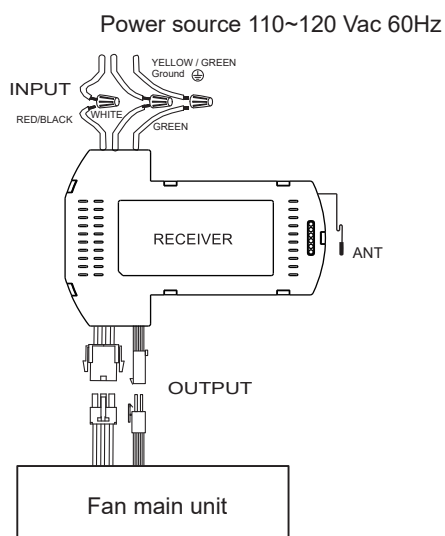

FIG.1
2. For installing to junction box, secure the junction box directly to the building structure. Use appropriate fasteners and building materials. The junction box and its support must be able to fully support the moving weight of the fan (at least 100lbs). Use a UL listed metal junction box (Not Included). Do not use a plastic junction box. Figure1 & 2 examples to mount the junction box (Not Included).
- Make connections as follows, using the wire nuts supplied: (FIG.1)